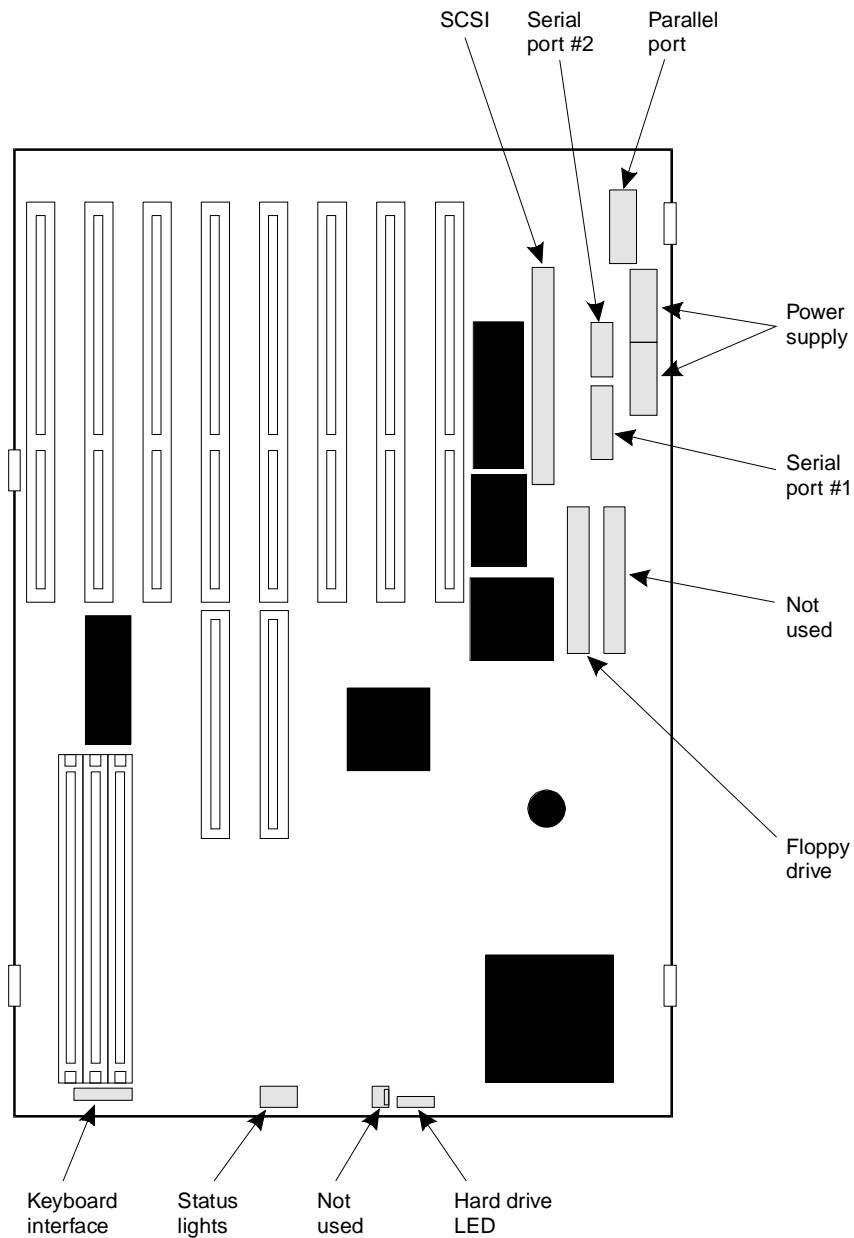

Figure C-6. Cable Connector Locations on the System Board
5. Replace the mounting screws in the locations shown in Figure C-6.